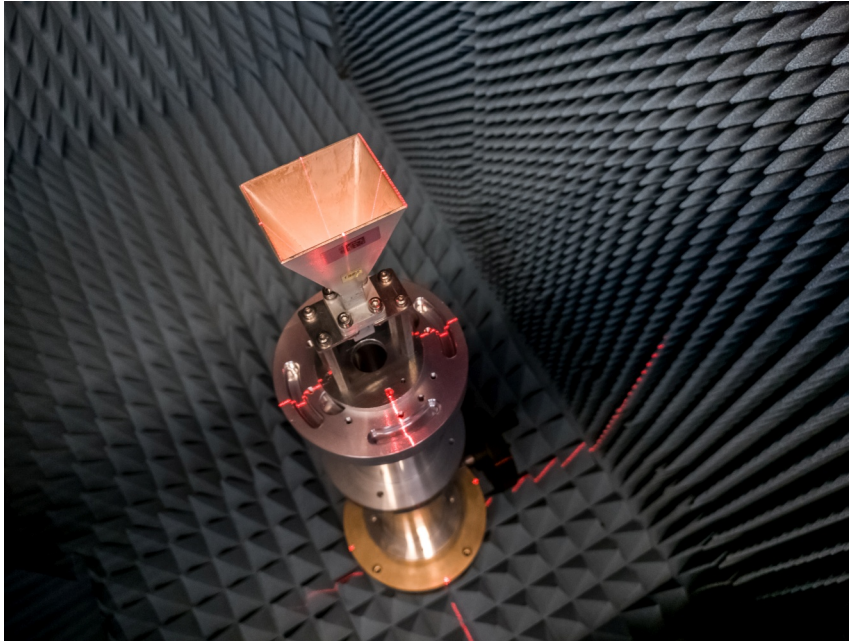

Figure 2-1: Reference antenna in ATS1000 with alignment using lasers
1. Place the reference antenna on the azimuth rotation table. Use the laser alignment to position the antenna at the correct height (c.f. Figure Figure 2-1).